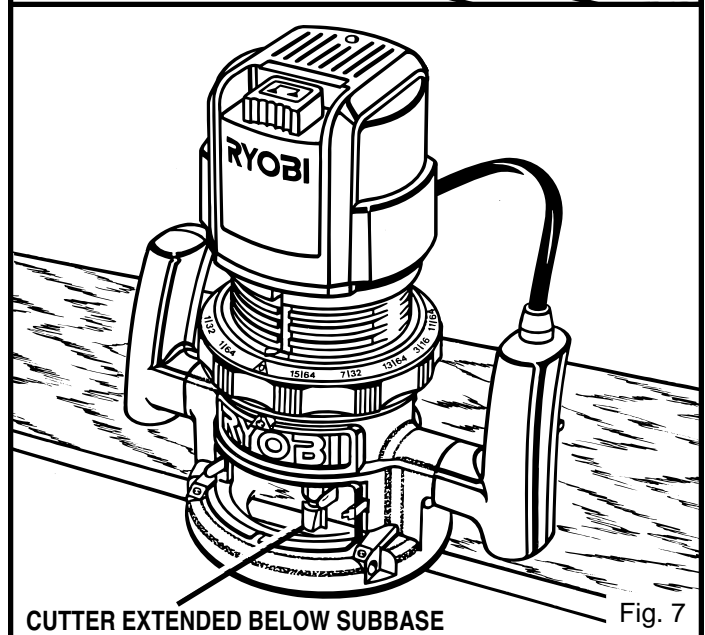

Fig. 7
4. Position your router so that the cutter can extend below the subbase for desired depth setting. *See Figure 7.*